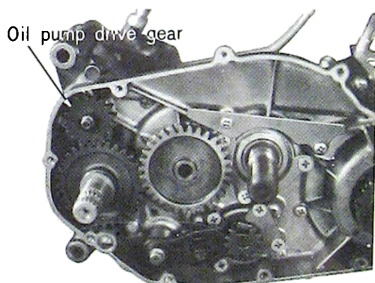

Fig. 5-2-31 Oil pump drive gear
- 6) After tightening crankcase fitting screws, fit the gear shifting pawl, kick idle gear, oil pump drive gear and kick starter gear. For precautions as to fitting the oil pump drive gear, refer to Fig.5-2-31.